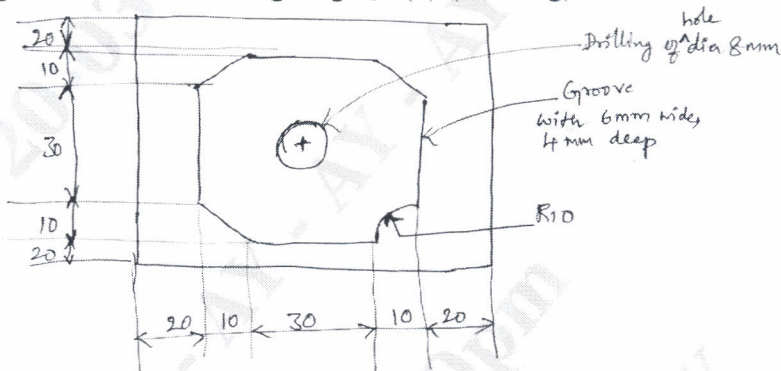

Fig.Q.7(b)
b. Write a part program for the following: Fig.Q.7(b) (drawing). Take drill diameter 8 mm.